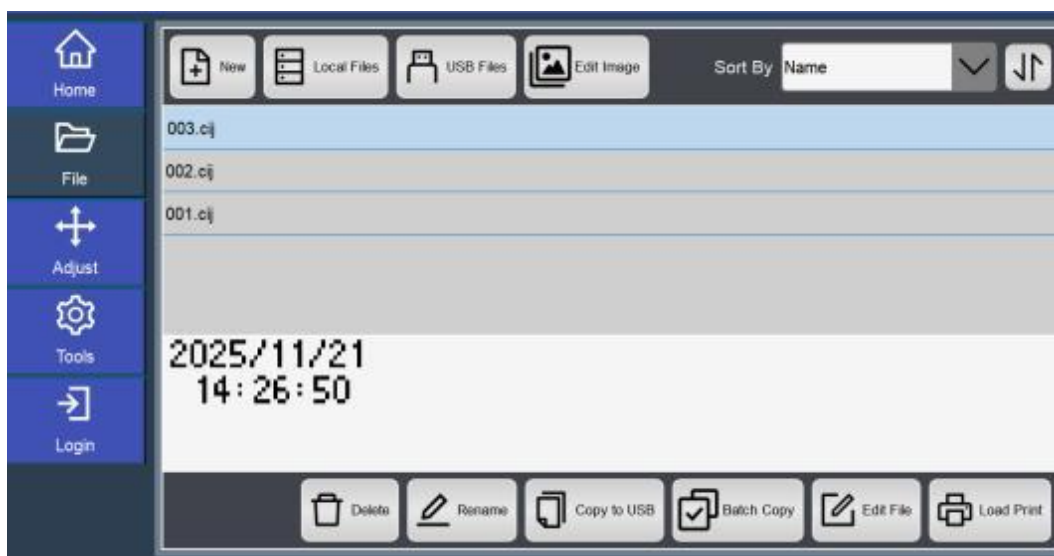

Figure 3-1 File processing interface
1.Click the  button Select Job on the main interface enter the file to processing interface.As shown in Figure 3-1